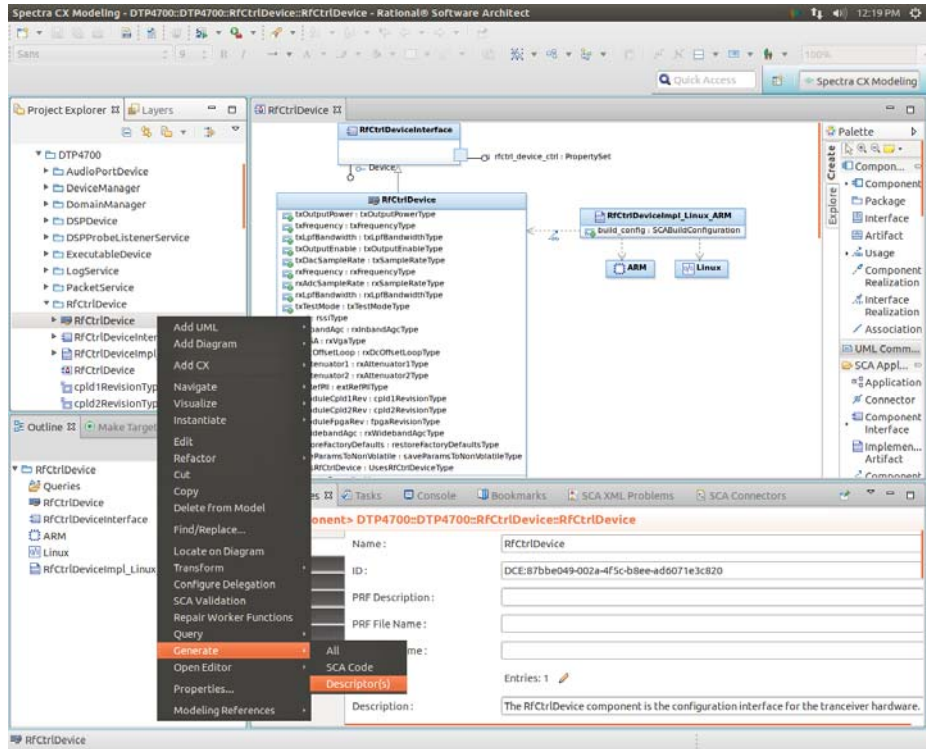

Figure 12 Generating Descriptors
- Step 4:** Right-click the RfCtrlDevice model element either by using the model element (structural realisation) displayed in the diagram or in the Project Explorer view, and choose **Generate > Descriptor(s)** from the menu, as shown in *Figure 12*. Notice that this procedure creates a folder DTP4700_src in the workspace to contain the generated descriptor artefacts, and that the model is validated prior to generating the required files.